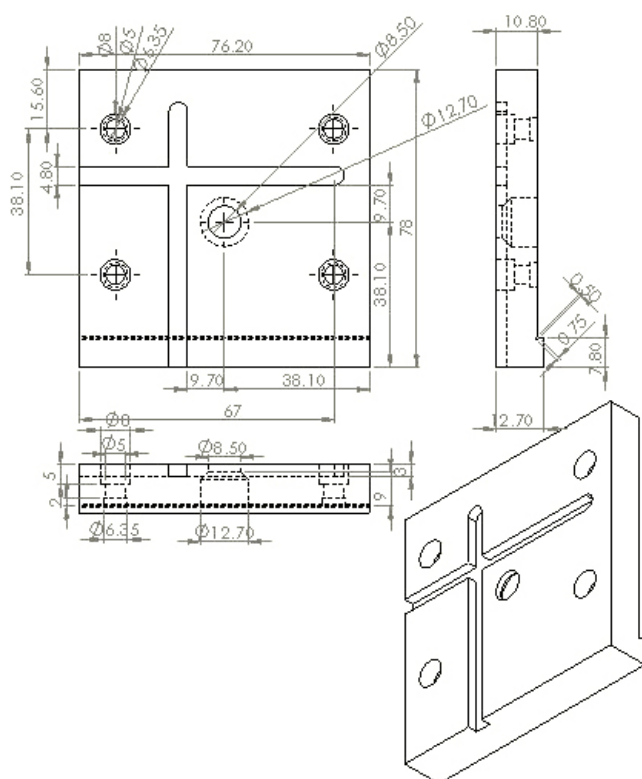

FIGURE 1—Dimensions for the small headstock mounting plate.
Figure 1 shows the dimensions of the headstock mounting plate.
4. Drill and bore a hole with a countersink from the bottom side of the plate for the pivot pin, and mill the two crossing slots for the head key (see measurements in Figure 1).